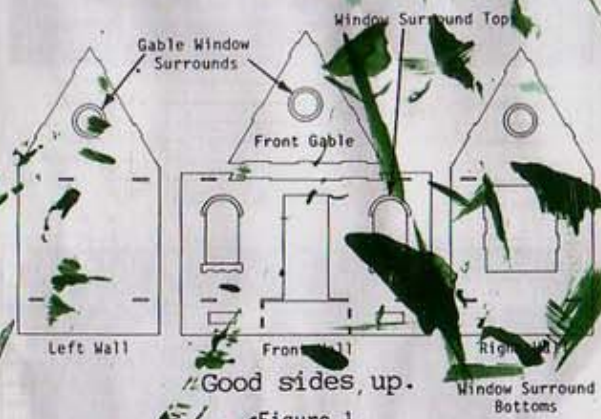

Figure 1
1. Locate Left Wall, Right Wall, Front Gable, and Right Wall (LF-1, 2, 4, 5). Locate Window Surrounds (LF-3, 4, 5, 6). Glue Surrounds to the outside of the walls as in Figure 1. Wipe excess glue away with a damp cloth.